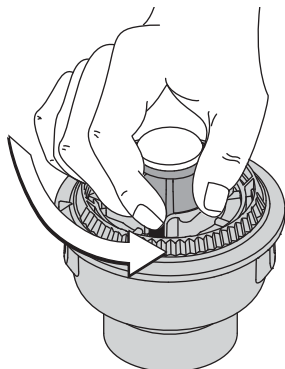

Fig. 18
1. Hold the outer spool, and unscrew the bump knob counterclockwise (Fig. 18).